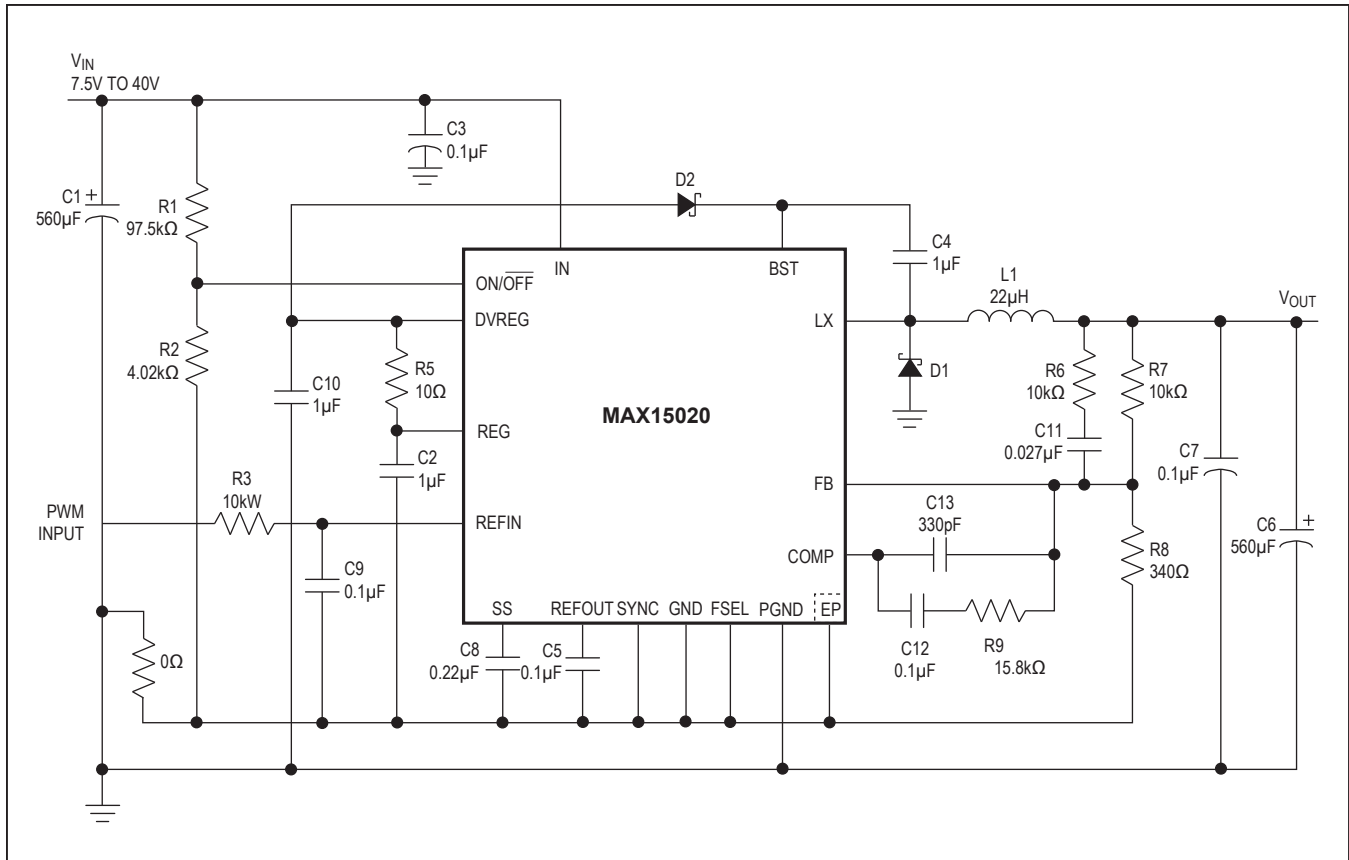

Figure 2. Typical Application Circuit
( $V_{IN} = 36V$ , Circuit of Figure 2,  $T_A = +25^\circ C$ , unless otherwise noted.)
( $V_{IN} = 36V$ , Circuit of Figure 2,  $T_A = +25^{\circ}C$ , unless otherwise noted.)
The MAX15020 features a reference input for the internal error amplifier. The IC regulates FB to the SS voltage which is driven by the DC voltage applied to REFIN. Connect REFIN to REFOUT to use the internal 0.98V reference. Connect REFIN to a variable DC voltage source to dynamically control the output voltage. Alternatively, REFIN can also be driven by a duty-cycle control PWM source through a lowpass RC filter (Figure 2).
When the voltage at ON/OFF rises above 1.225V, the MAX15020 turns on. Connect a resistive divider from IN to ON/OFF to GND to set the turn-on voltage (see Figure 2). First select the ON/OFF to the GND resistor (R2), then calculate the resistor from IN to ON/OFF (R1) using the following equation:
Connect a resistor-divider from OUT to FB to GND to set the output voltage (see Figure 2). First calculate the resistor (R7) from OUT to FB using the guidelines in the *Compensation Design* section. Once R7 is known, calculate R8 using the following equation:
The basic regulator loop consists of a power modulator, an output feedback divider, and a voltage error amplifier. The power modulator has a DC gain set by  $V_{IN}/V_{RAMP}$ , with a double pole and a single zero set by the output inductance (L), the output capacitance ( $C_{OUT}$ ) (C6 in the Figure 2) and its ESR. The power modulator incorporates a voltage feed-forward feature, which automatically adjusts for variations in the input voltage resulting in a DC gain of 9. The following equations define the power modulator: